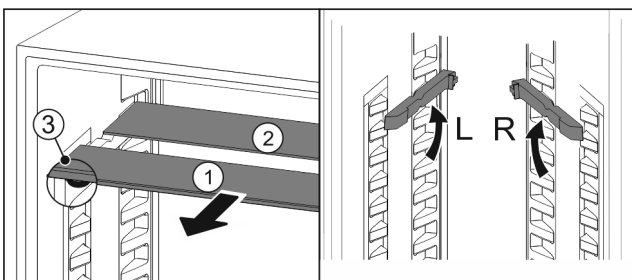

Fig. 62
- ▶ Pull the glass panels out Fig. 62 (1) from the front, one at a time.
- ▶ The glass panel Fig. 62 (1) and trim strip are at the front.
- ▶ The stops Fig. 62 (3) point down.